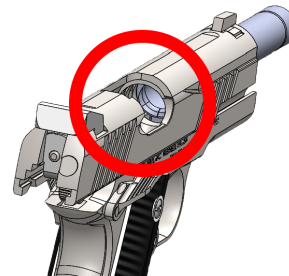

Figure 21
- Do not obstruct the ejection port because doing so can interfere with ejection of a cartridge. Visually check the barrel's chamber to be sure it is empty - Figure 21.